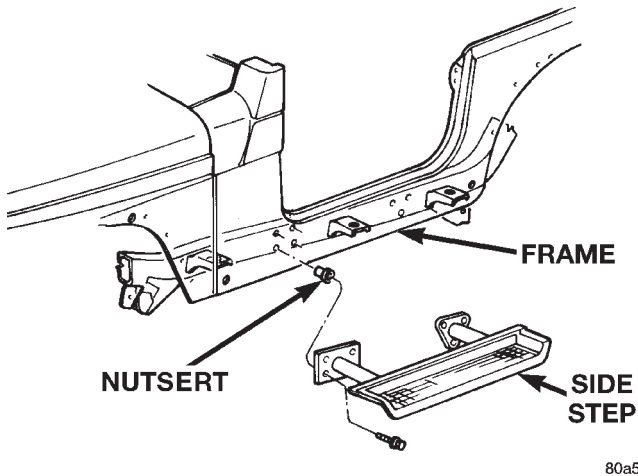

Fig. 16 Side Step
- (1) Remove the bolts that attach the side step to the frame (Fig. 16).
- (2) Separate the side step from the frame.